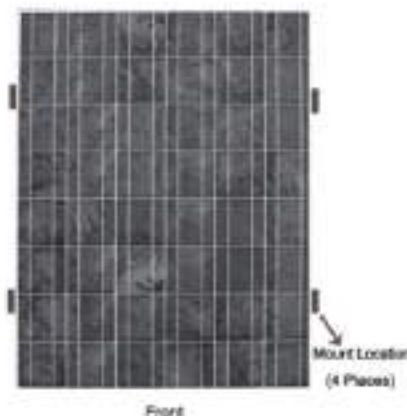

Fig. 1
- The module shall be installed as shown in figure 1. Failure to do so can lead to the frame separating from the glass, the glass breaking, and/or the solar module may become a falling object.
- Follow the illustration in figure 1 to provide proper support of the module that will withstand all expected loads, including those imposed by snow, ice, or wind.